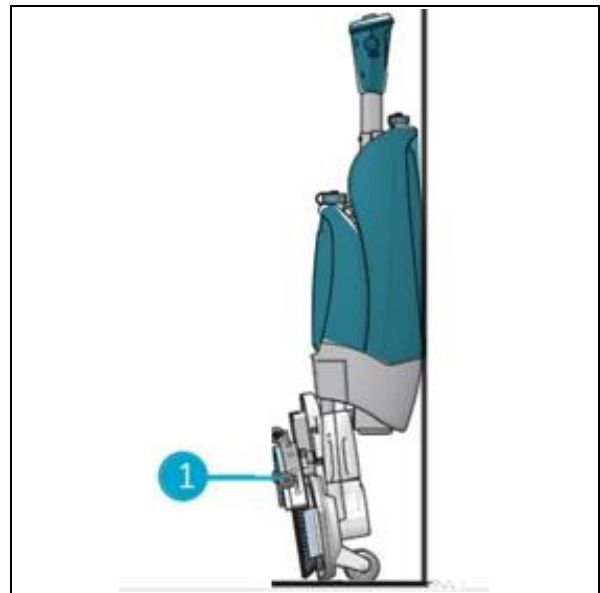

Figure 33
3. Store the i-mop® XXL close to a wall (Figure 33, pos 1) with the handle pointing towards the wall and the brushes facing away from the wall.